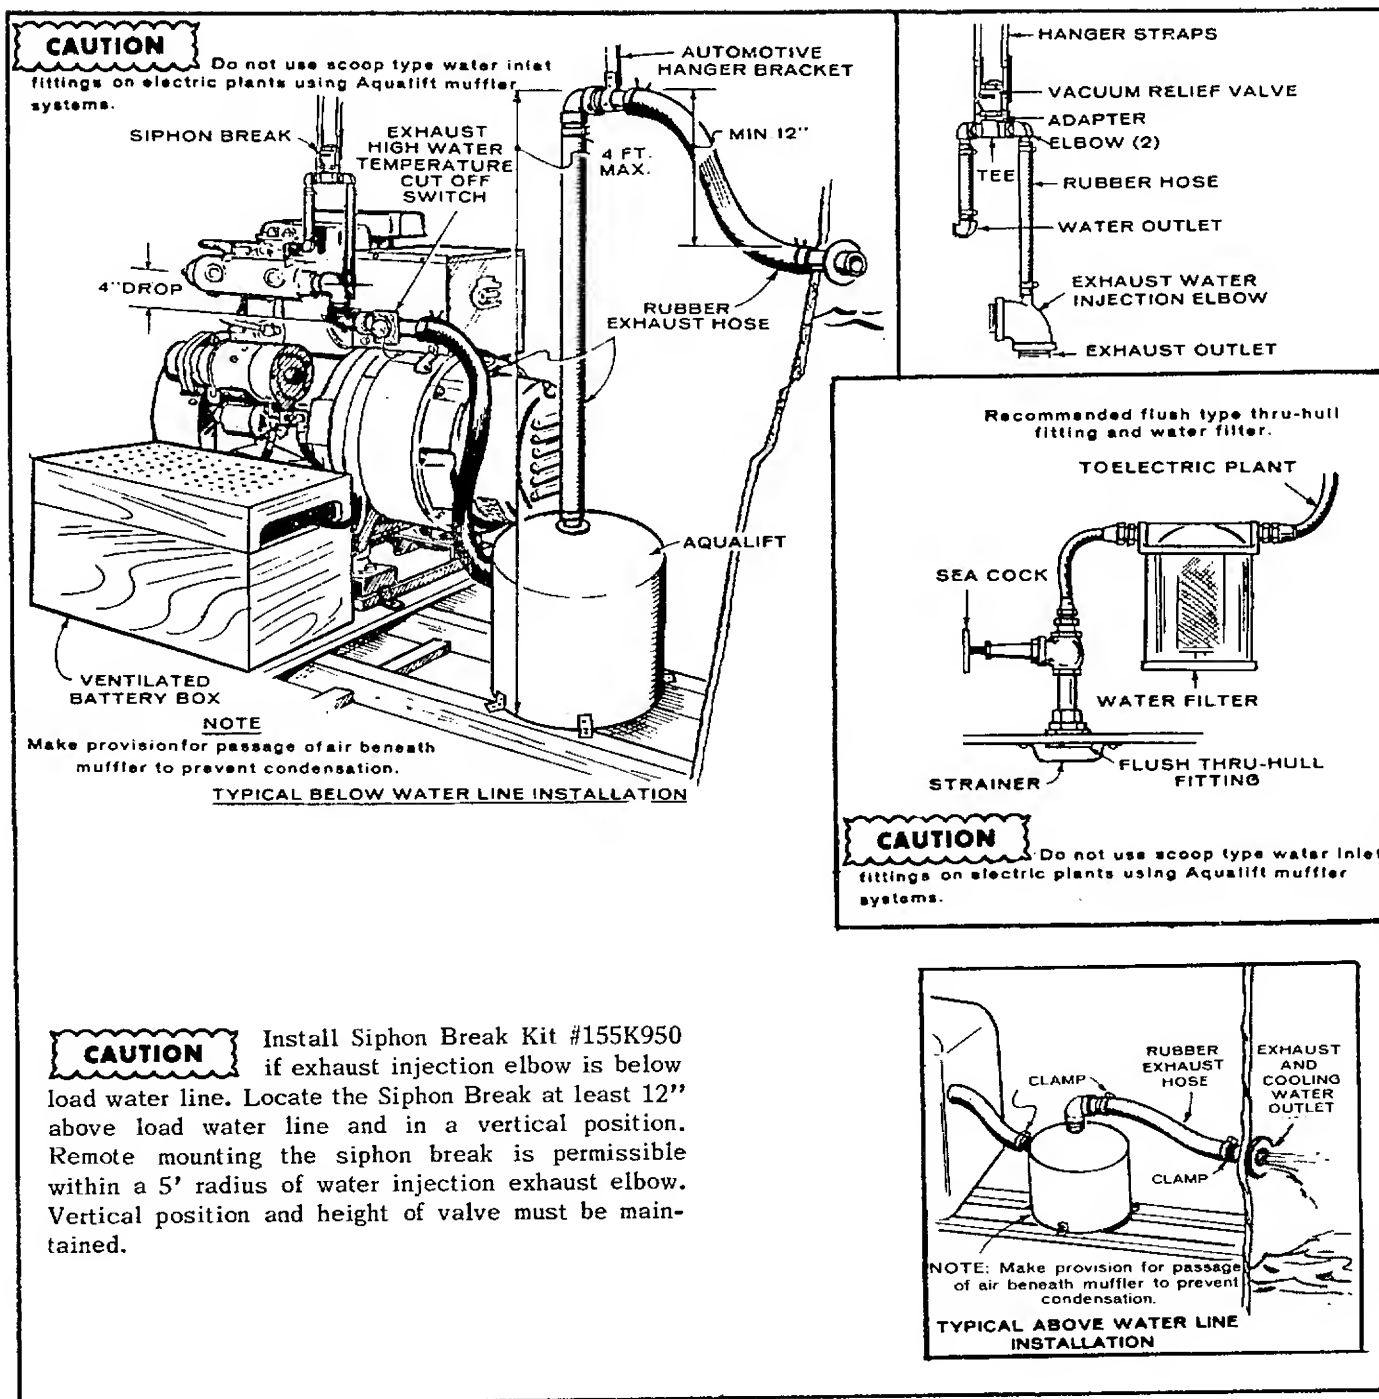

FIGURE 3. A TYPICAL INSTALLATION
2. Connect the exhaust line (1-1/4") to the marine elbow on the engine and to the exhaust inlet on the muffler. The distance from the base of the muffler to the upper elbow on the exhaust tubing from the muffler outlet must not exceed four feet (see Fig. 3).
3. Connect the exhaust line to the muffler outlet and to the upper elbow. A conventional automobile tail-pipe hanger bracket may be used to hang the upper elbow. Rigid pipe may be used in place of flexible hose for certain applications. There must be a pitch of one half inch per foot (i.e., a 2-1/2" drop for a five foot run) in the exhaust tubing between the engine exhaust elbow and the muffler inlet. Muffler may be mounted below the level of the engine if necessary. A minimum drop of one foot is necessary between the engine exhaust outlet on the hull to prevent water from washing into the system (see Fig. 3). An increase of one standard pipe size for every ten running feet of exhaust from the muffler to the exhaust outlet is necessary to prevent excessive back-pressure.